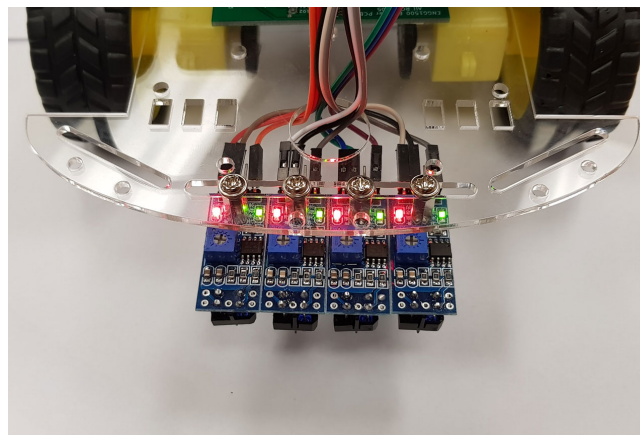

Figure 2: Mounting 4 line sensors
1. Mount 4 IR line sensors to the front of your robot using *10 mm stand-offs*, shown in Figure 2.
If you mount your sensors identically to Figure 2 you won't need to change the array of sensor positions in the code template.